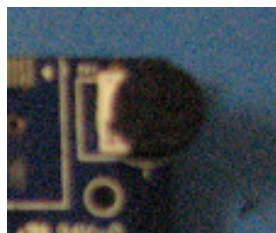

Figure 7-19 • POT RV1
2. Locate POT RV on the bottom, left hand corner of the board. Turn POT RV1 counter-clockwise all the way to the left, as shown in Figure 7-19.